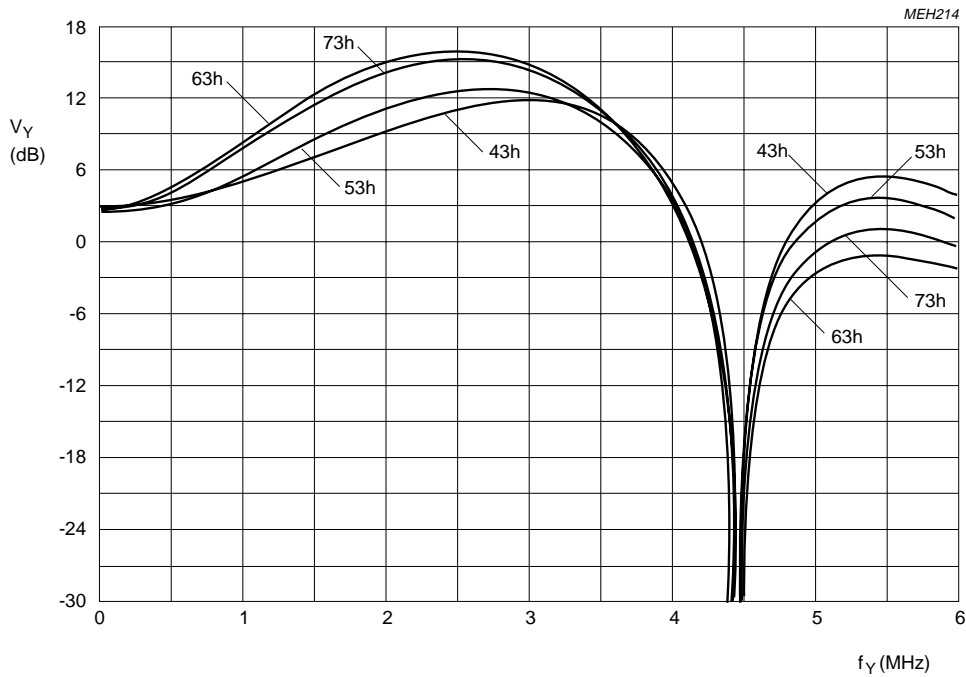

Fig.16 Luminance control in **50 Hz / CVBS** mode controllable by subaddress byte 06; pre-filter on and coring off; maximum aperture bandpass filter characteristic.
) Figures 16 to 25
Figure 16 to 25
- dependent on application (Figures 16 to 25)